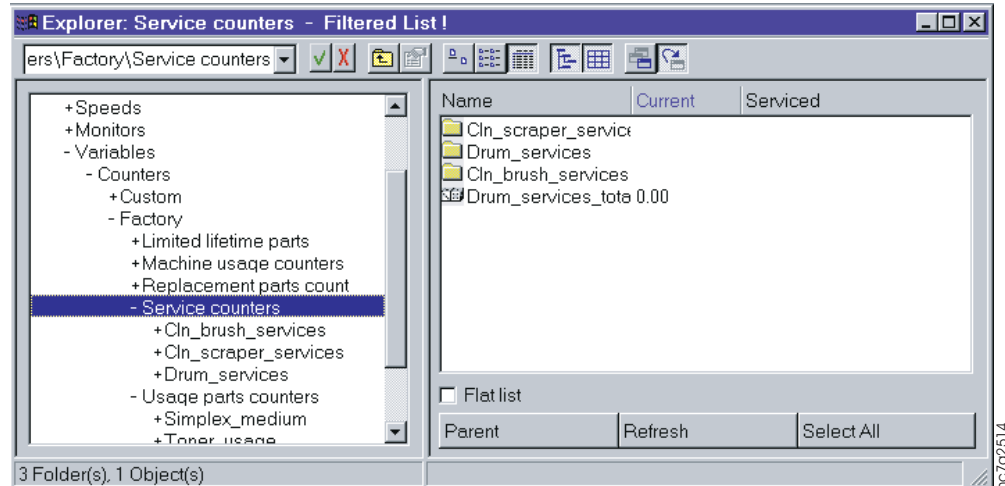

Figure 225. Service Counters Window
3. Click again on **Service** counters and you will see the counters in the list view or right side of the **Service counters** window, as shown in Figure 225. The counters are described in Table 77.